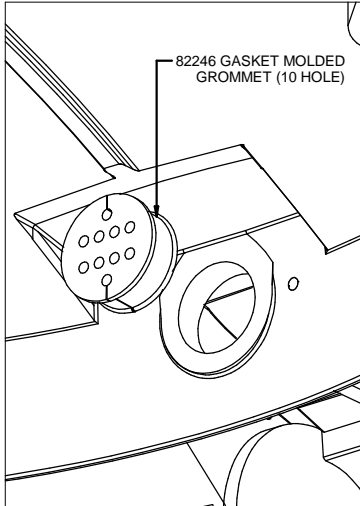

FIG. 5-1
1. WITHIN THE FIXTURE HOUSING, REMOVE AND DISCARD THE EXISTING WIREWAY GROMMET. REPLACE WITH PROVIDED 10-HOLE WIREWAY GROMMET (82246). (FIG. 5-1)